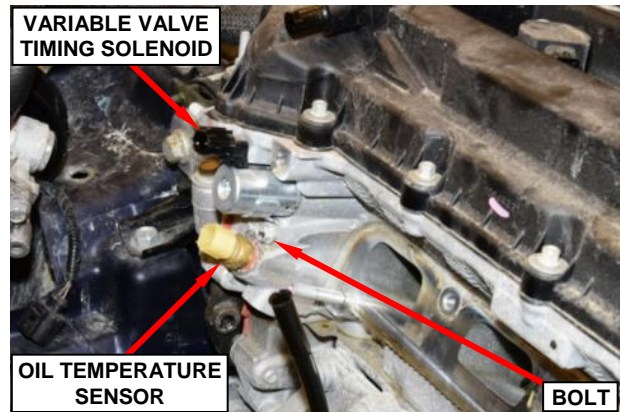

Figure 47 – Oil Sensor / Valve Solenoid
- a. Remove the oil temperature sensor (Figure 47).
- b. Remove the bolt and exhaust variable valve timing solenoid (Figure 47).
- a. Remove and save the oil temperature sensor (Figure 47).
- b. Remove and save the bolt and exhaust variable valve timing solenoid (Figure 47).